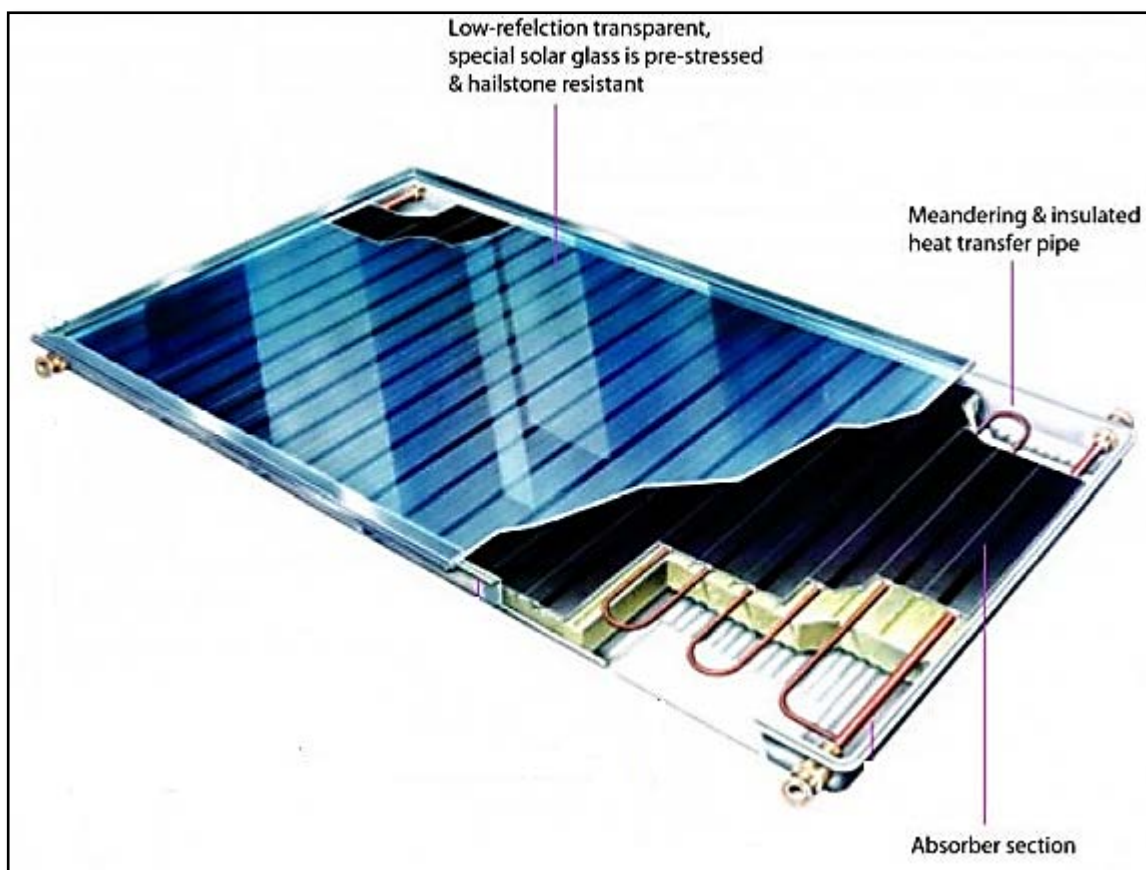

Figure 14: Inside a solar thermal panel
3. Figure 14 shows a cross section of a solar thermal panel. From the results in your experiment explain why the solar energy absorber section is black _____